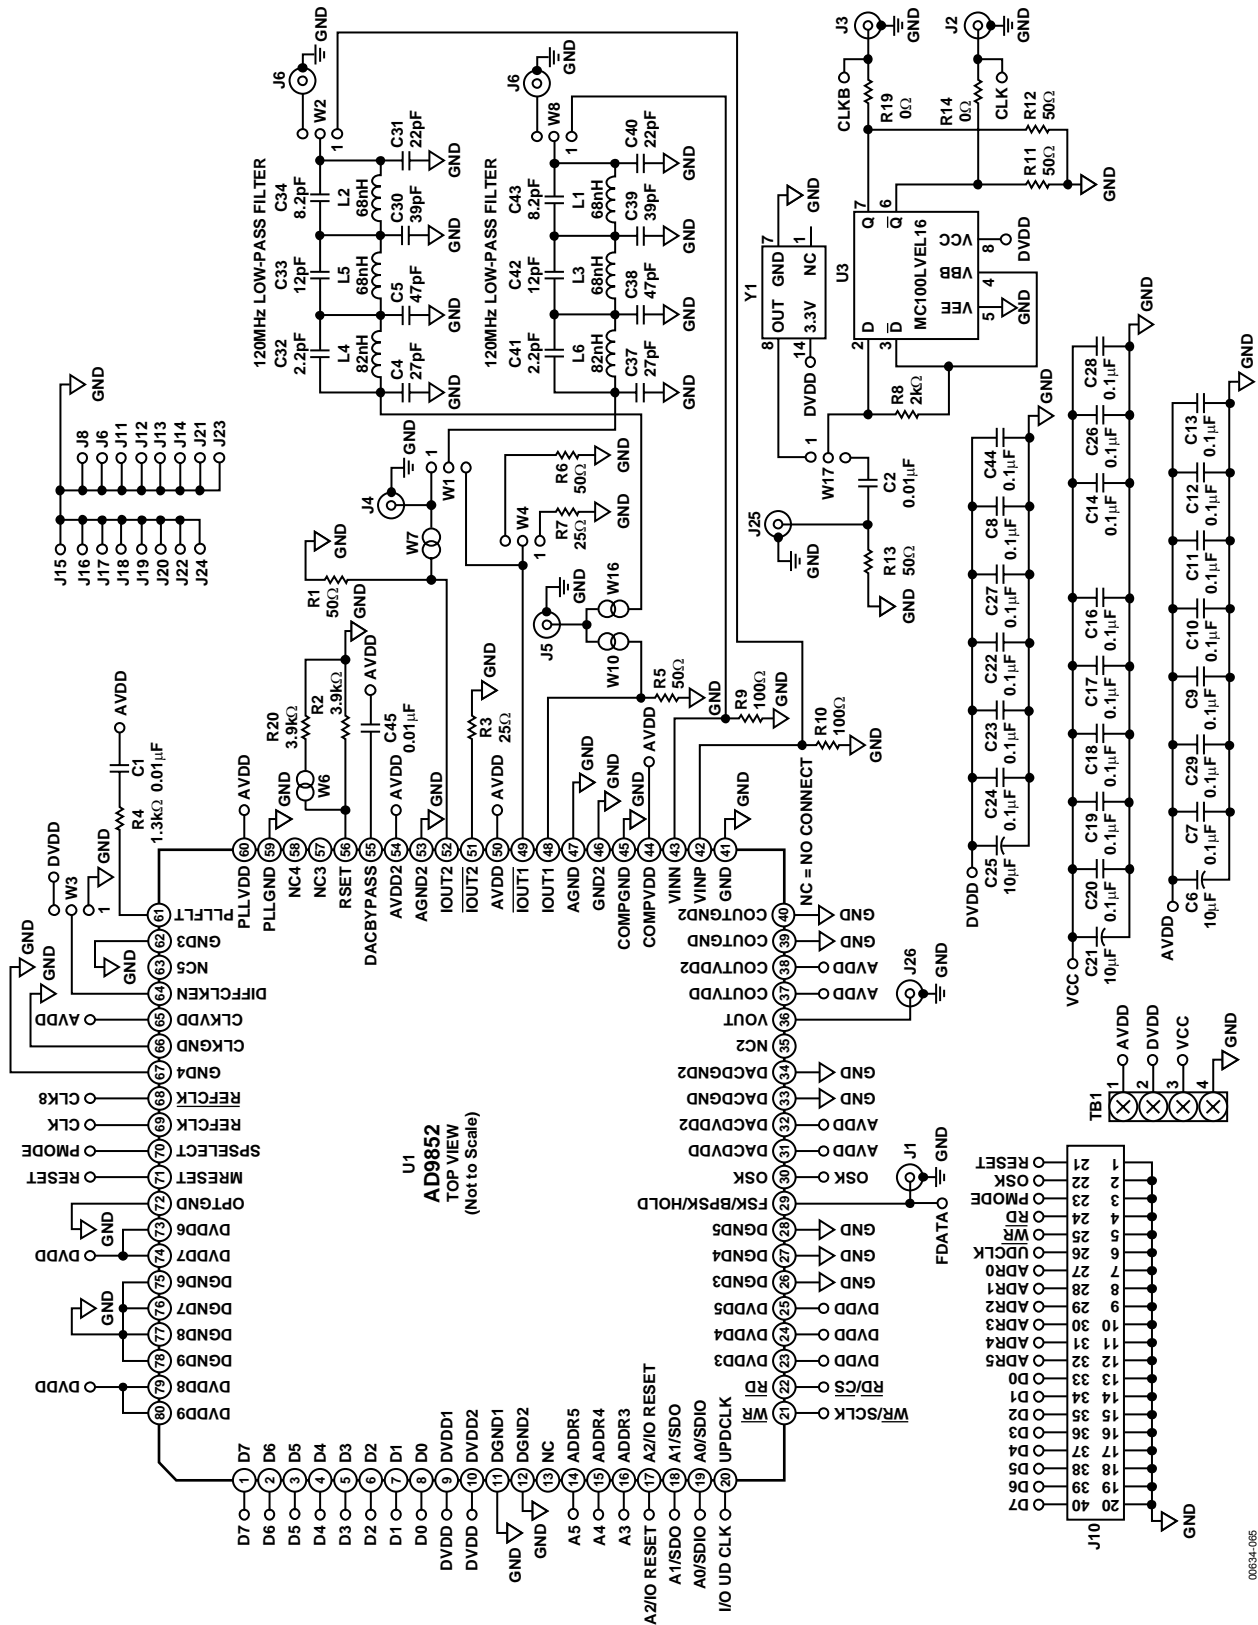
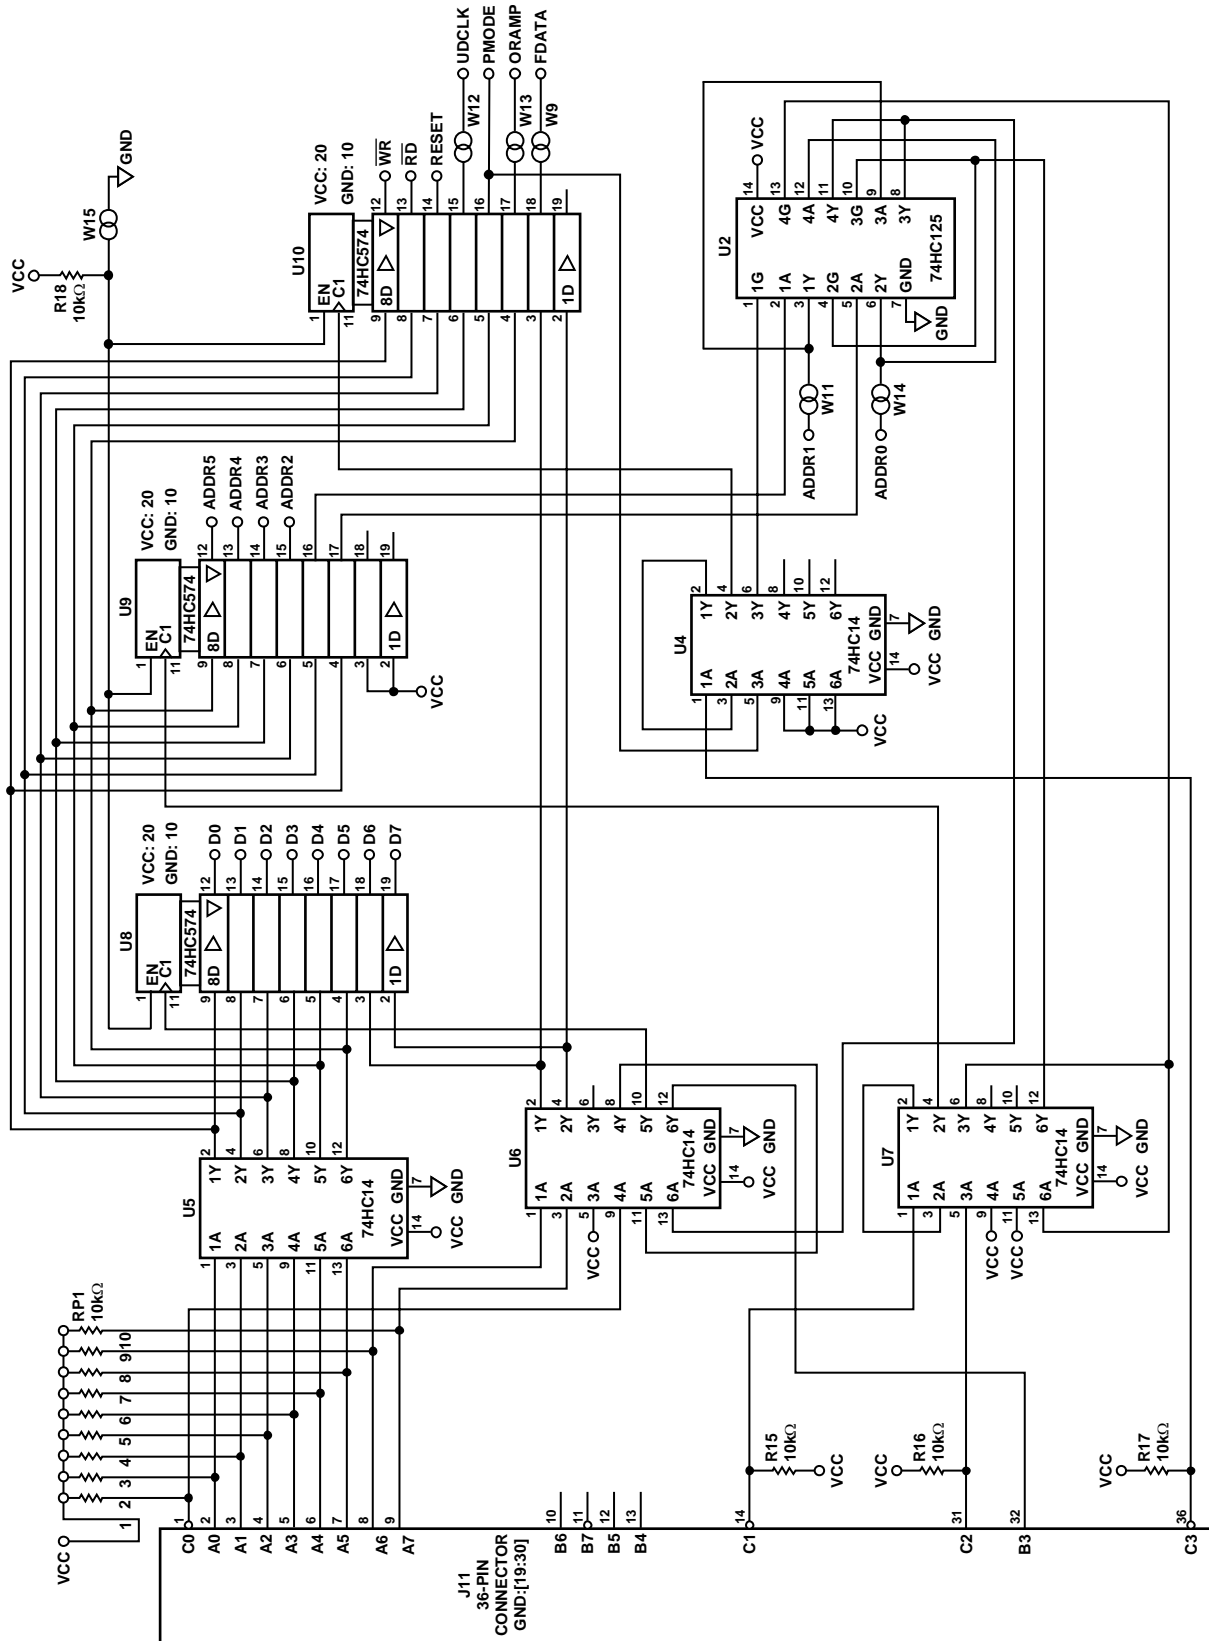

Figure 65. Evaluation Board Schematic
Figure 66. Evaluation Board Schematic
The purpose of 2-pin headers, W7 and W10 (associated with J4 and J5), is to allow the two 50  $\Omega$ , 120 MHz filters to be tested during PCB assembly without interference from other circuitry attached to the filter inputs. Normally, a shorting jumper is attached to each header to allow the DAC signals to be routed to the filters. If the user wishes to test the filters, the shorting jumpers at W7 and W10 should be removed and 50  $\Omega$  test signals applied at J4 and J5 inputs to the 50  $\Omega$  elliptic filters. The user can refer to the provided schematic (Figure 65 and Figure 66) and the following sections to properly position the remaining shorting jumpers.
4. Refer to this data sheet and the evaluation board schematic (Figure 65 and Figure 66) to understand all the functions of the AD9852 available to the user and to gain an understanding of how the software responds to programming commands.